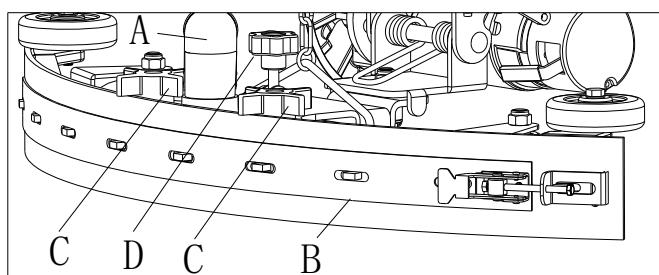
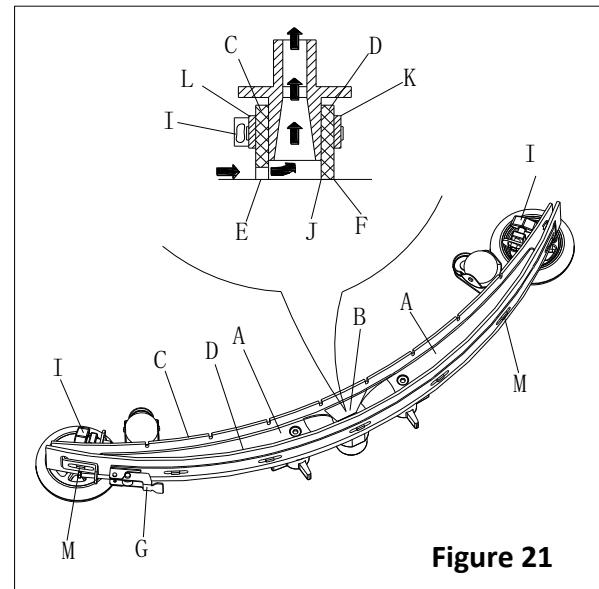

Figure 22
Figure 21
2. Check that the edges (E, Figure 21) of the front blade (C) and the edges (F) of the rear blade (D) lay down on the same level, along their length; if necessary adjust their height according to the following procedure:
- Remove the tie rod (G), disengage the fasteners (M) and adjust the rear blade (D), then engage the fasteners (M) and install the tie rod (G).
- Loosen the knobs (I) and adjust the front blade (C), then tighten the knobs.
3. Check the front blade (C) and rear blade (D) for wear, cuts and tears; if necessary replace them according to the following procedure. Check that the front corner (J) of the rear blade (D) is not worn; if necessary overturn the blade to replace the worn corner with an integral one. If the other corners are worn too, replace the blade according to the following procedure:
- Remove the tie rod (G), disengage the fastener (M) and remove the retaining strip (K), then replace/overtturn the rear blade (D). Assemble the blade in the reverse order of disassembly.
- Unscrew the knobs (I) and remove the retaining strip (L), then replace front blade (C). Assemble the blade in the reserve order of disassembly. After the blade replacement (or overturning), adjust the height as shown in the previous step.
4. Connect the vacuum hose (A, Figure 22) to the squeegee.
5. Install the squeegee (B) and screw down the knobs (C).
6. If necessary, adjust the squeegee balance adjusting knob (D).